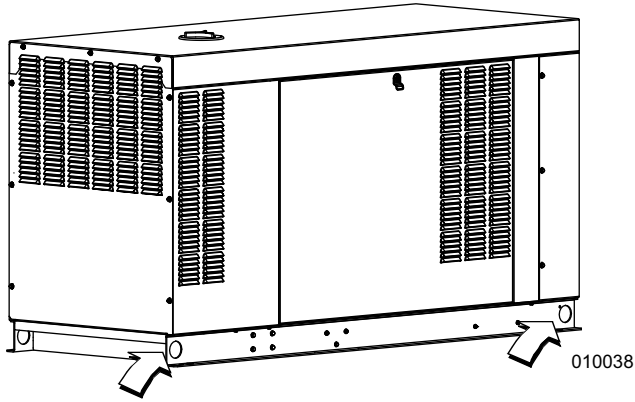

Figure 2-1. Lifting Points (Four Places)
See Figure 2-1. Installation drawings show lifting points for rigging and lifting purposes. Always attach lifting and rigging devices at designated points only. Do not use lifting points of the engine or alternator to move generator.
- See Figure 2-1. Keep a minimum clear working space around each side of the generator to facilitate service or maintenance. See NEC Article 110.26 for clarification.